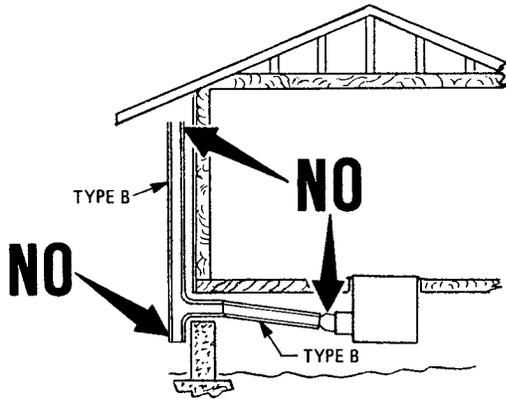

Figure 5
6. Flue pipe **MUST** be as large as the flue collar on the draft diverter. See Figure 5.
11. The flue pipe **MUST** be sealed. No open "Tees." **See Figure 5.**